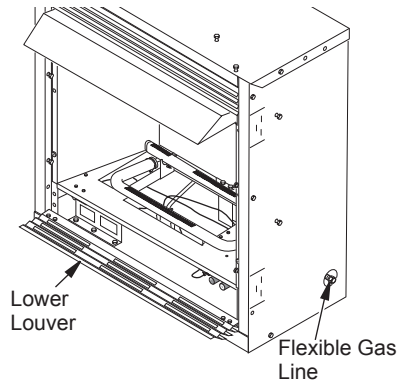

Figure 21 - Flexible Gas Line Location (Remote-Ready Unit Shown)
1. Open lower louver (see Figure 21).
NOTICE: Most building codes do not permit concealed gas connections. A flexible gas line is provided to allow accessibility from the fireplace (see Figure 21). The flexible gas supply line connection to the equipment shutoff valve should be accessible.